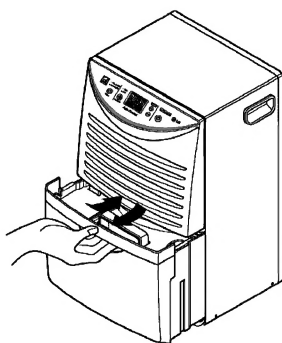

Figure 9
3. Remove the bucket. (See Figure 9)